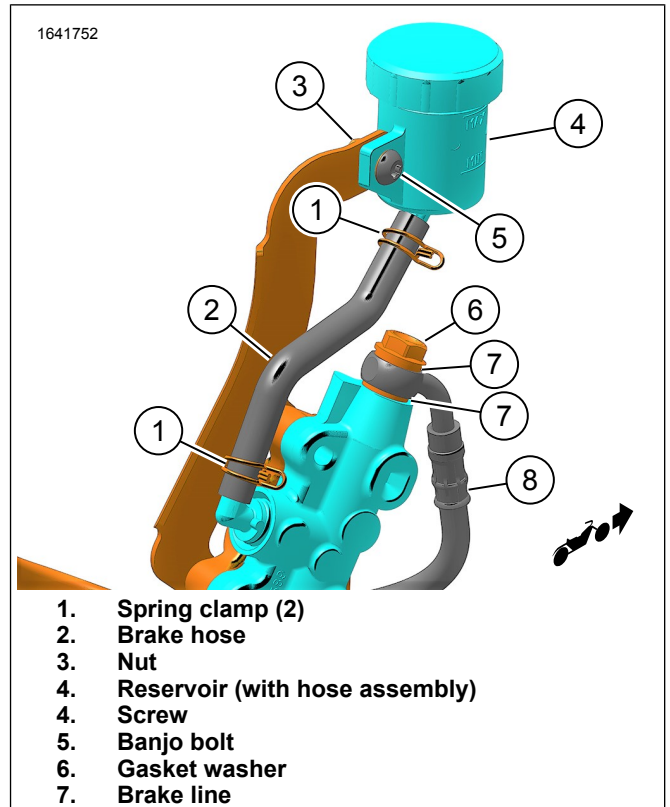
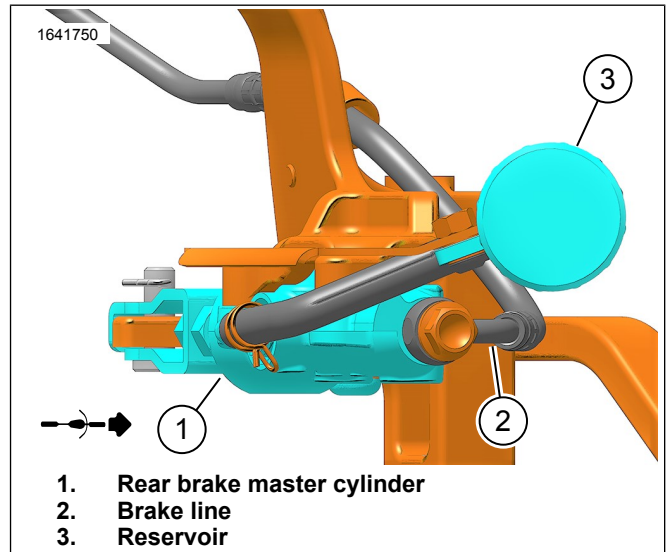
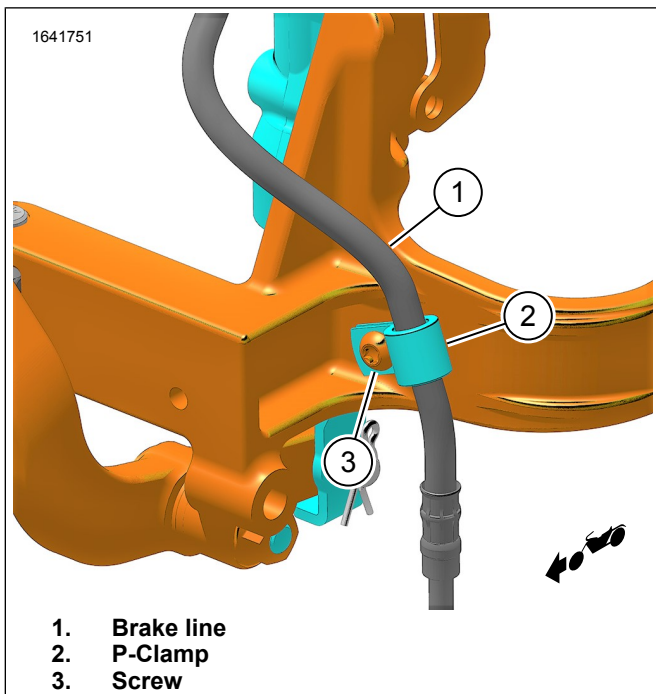

Figure 11. Rear Brake Master Cylinder Reservoir
Figure 12. Top View, Brake Line Clocking
Figure 13. P-Clamp
- c. Install brake pedal (5) to master cylinder clevis (8).
- d. Install clevis pin (6) and cotter pin (7).
3. See Figure 11. Install rear brake master cylinder reservoir assembly.
- a. Install reservoir (4).
- b. Apply threadlocker to screw (5).
- d. Reposition spring clamp (1) on brake hose (2) that installs to master cylinder.
- e. Install brake hose (2) to master cylinder from reservoir (4).
- f. Move spring clamp (1) to lock down brake hose.
4. See Figure 11. Install brake line to rear master cylinder.
- a. See Figure 12. Position brake line as shown.
- b. See Figure 11. Install **new** gasket washers (7).
- c. Loosely install banjo bolt (6).
- d. See Figure 13. Install p-clamp (2) to brake line (1).
- e. Loosely install screw (3).
- f. See Figure 12. Check that brake line is properly routed as shown.
- g. See Figure 13. Tighten screw (3).
- h. See Figure 11. Tighten banjo bolt (6).